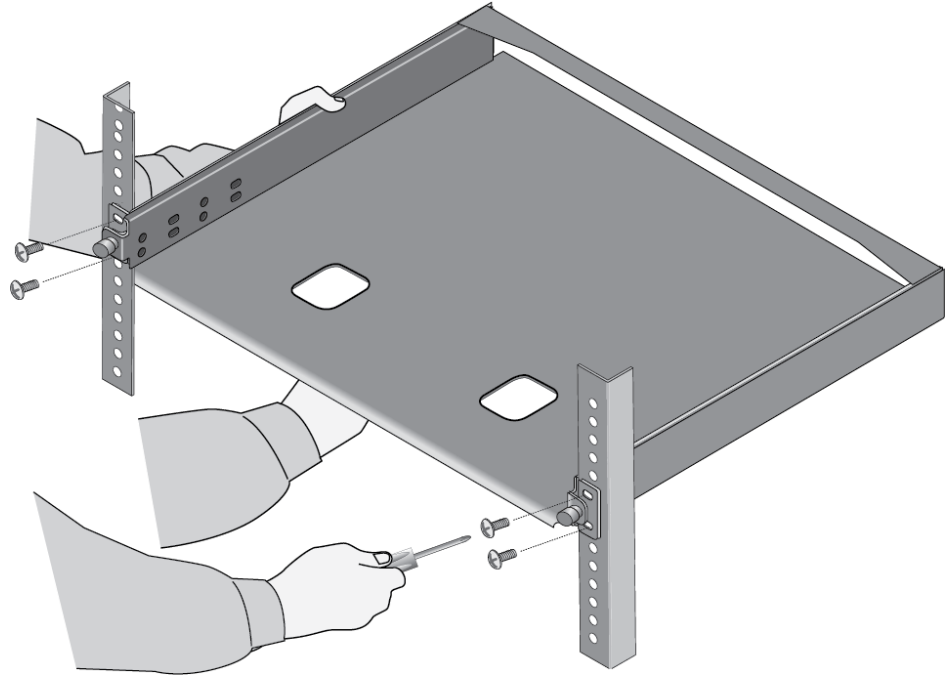

Figure 56. Installing the RKMT-J15 Bracket in the Equipment Rack
1. Have another person hold the RKMT-J15 Bracket at the desired location in the equipment rack while you secure it using four standard equipment rack screws (not provided). Refer to Figure 56 on page 116.